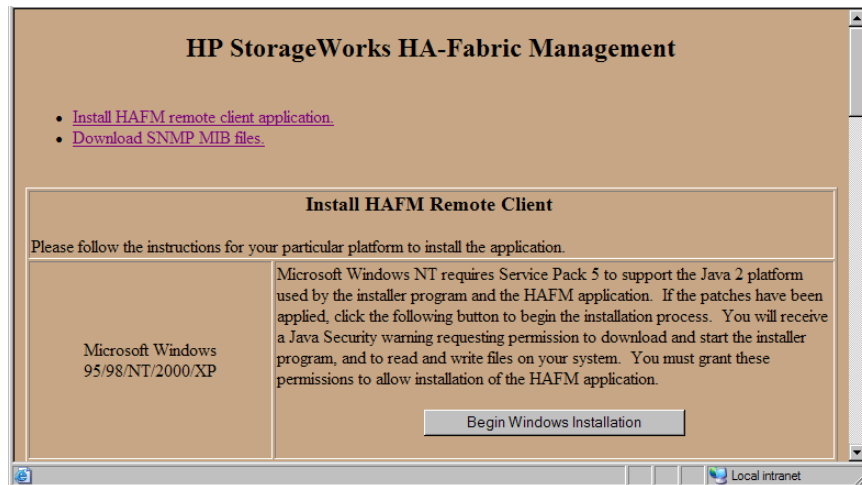

Figure 61: HAFM remote client install
4. The HAFM splash screen displays with the following options, see Figure 61.